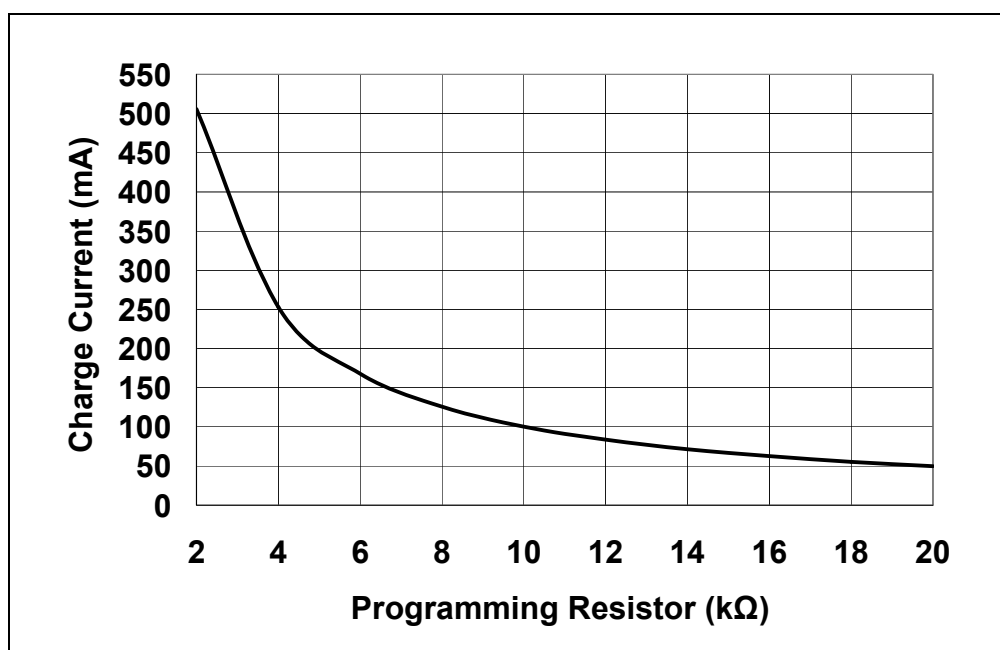

FIGURE 2-1: Charge Current (I_{OUT}) vs. Programming Resistor (R_{PROG}).
- Chip Enable (CE) Pin to disable the system when drive Low.
- Evaluating different charge current rates by changing R_{PROG} (Programming Resistor) values. See Figure 2-1
6. Fast Charge Current for MCP73812 can be programmed with various resistors that based on the Figure 2-1. R_{PROG} is represented as R1 on the evaluation board.